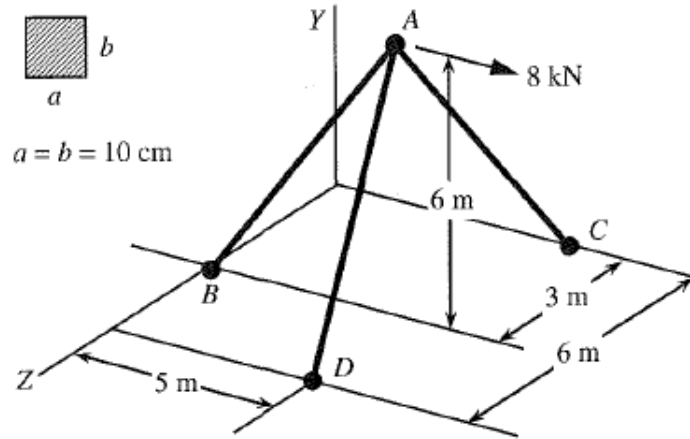

Figure P2.12
12. Determine the normal stress in each member of the truss structure shown in **Figure P2.12**. All joints are ball-joint and the material is steel, whose Young's modulus is $E = 210$ GPa.